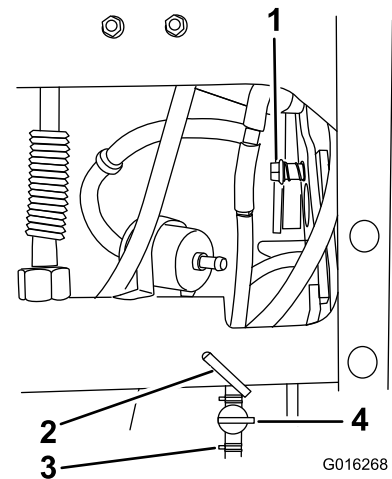

Figure 3
4. Remove the hose and clamp from the shut off valve on the engine side and cut the plastic cable tie (Figure 3).
7. Remove the shoulder bolt and compression spring at the deck lift handle (Figure 3).